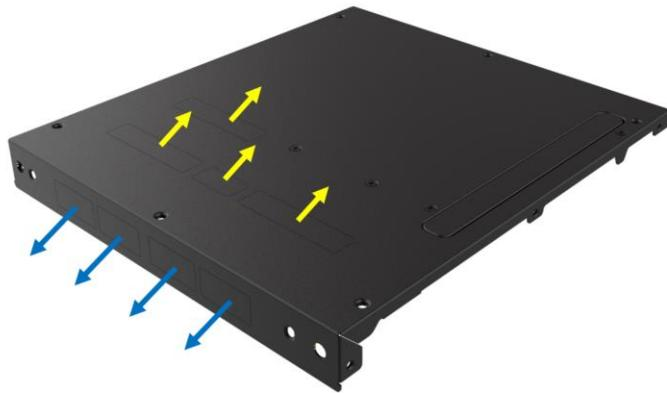

Figure 3-6: Remove the Knockout
Step 3: Remove the knockouts from the bottom cover, four on the side for LAN ports and four on the top for heat sinks (Figure 3-6).